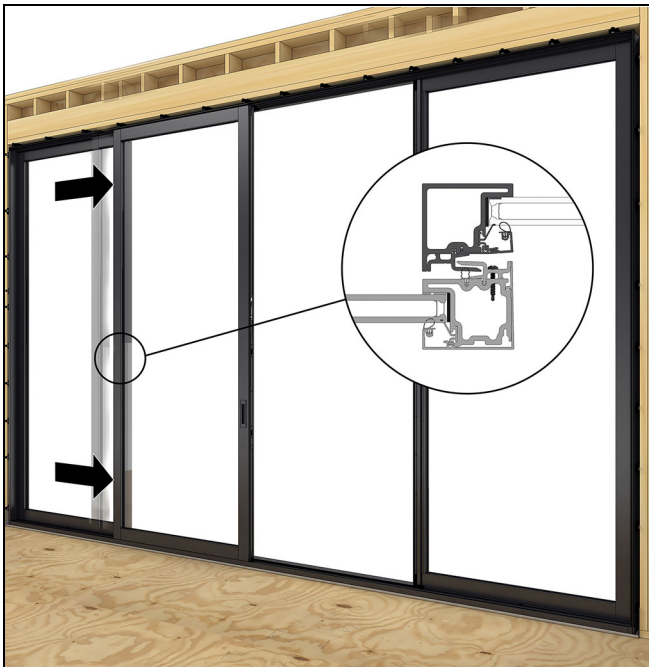

Figure 119
4. Engage the interlock with the C panel and operate the flush bolt at the head jamb on the (E) panel. See Figure 119 and Figure 120.